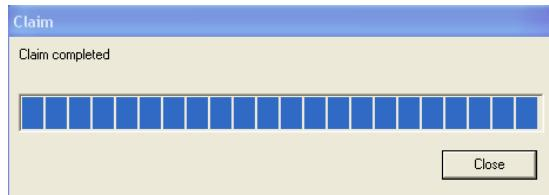

Figure 26: Claim Dialog Box
- After the claim process is complete, SP3D displays the **Claim** dialog box, as shown in Figure 26. Click **Close** to close the dialog box.